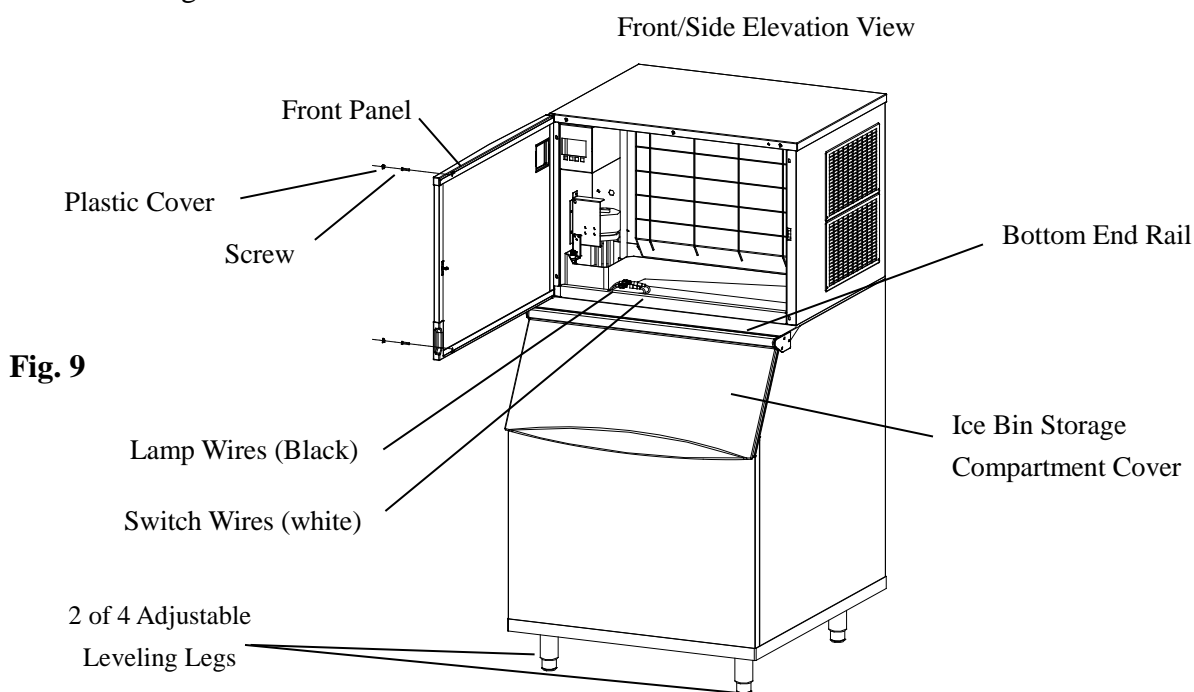

Fig. 9
1. Use a wire cutter or similar tool to remove plastic straps on the top and bottom of front panel (Fig. 9).